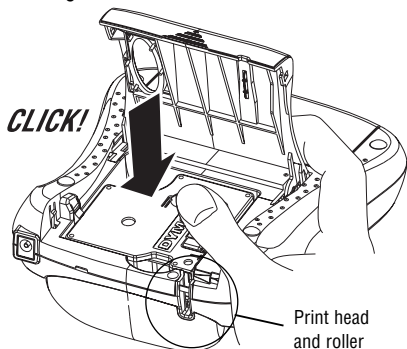

Figure 4
- Insert the cassette with the tape and ribbon positioned between the print head and roller. See Figure 4.